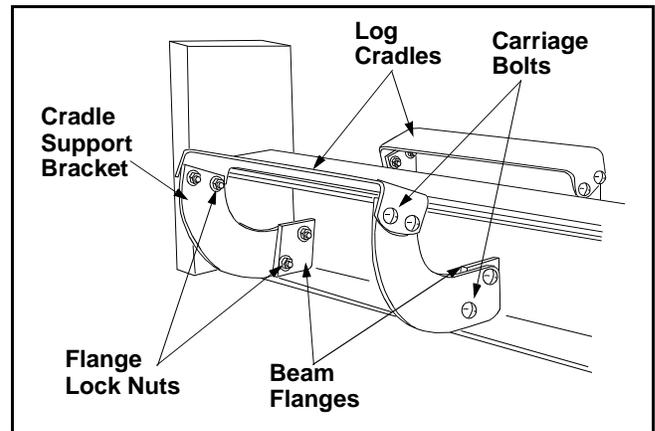

Figure 9
- Place one cradle support bracket against the lower outside surface of one of the beam flanges. See Figure 9.